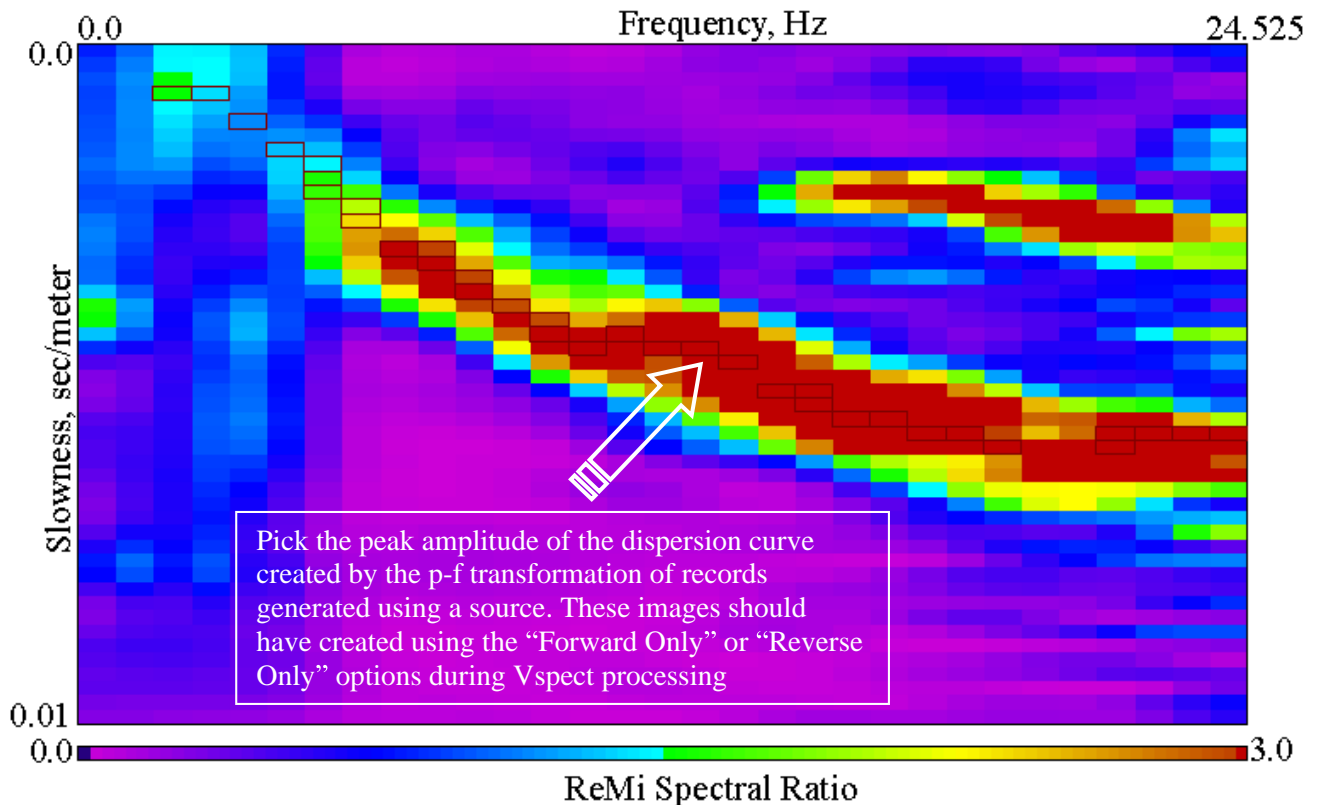

Figure 41b: When picking the p-f image generated from using sources, then the picks need to be made along the peak amplitude and not the low-energy bound.
10. If you are picking p-f images created from a source (Forward Only or Reverse Only options used for Analysis, see Section 3.4.1), then you need to pick the peak of the dispersion curve as shown in Figure 41b.